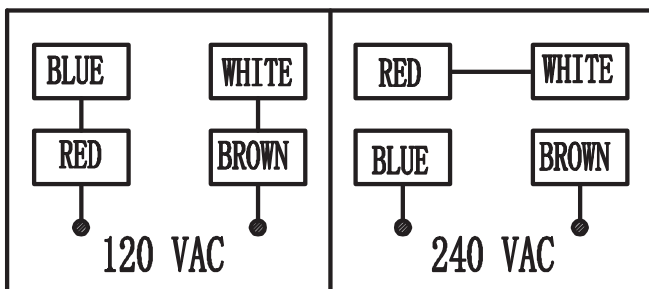

Figure 3 – Wiring Diagram
- Motor and wires are installed as shown in wiring diagram (See Figure 3). Motor is assembled with approved, 3-conductor cord to be used at 120/240 volts. Motor is prewired at the factory for 120 volts.